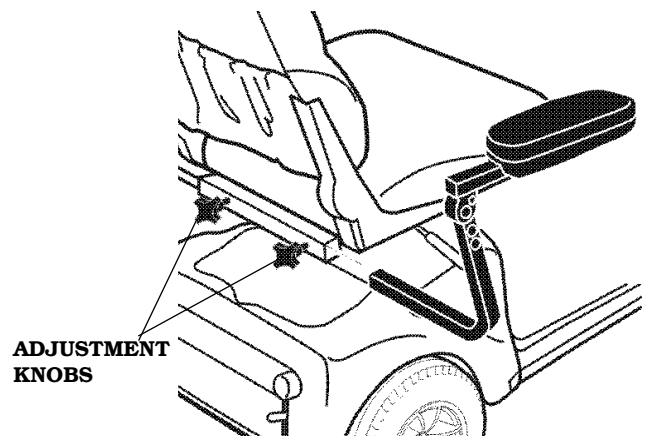

FIGURE 38. ARM INSTALLATION
1. Insert the right arm into the arm bracket. See figure 38.